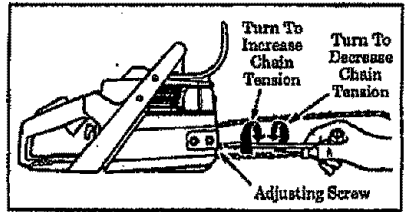

Figure 10
- Turn the Adjusting Screw (Figure 10) counterclockwise to move the Adjusting Pin (Figure 8) almost as far as it will go to the rear.
1. Lift up the tip of the Guide Bar and turn the Adjusting Screw clockwise until the chain does not sag beneath the Guide Bar. Figure 10.